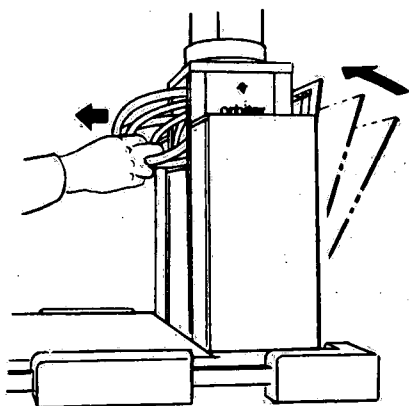

Figure 6-14. Support Head Assembly Side-View
4. Continue pulling the excess length of lines through the opening until the top of the gas outlet assembly is almost flush with the top of the support head assembly (see Figure 6-14).